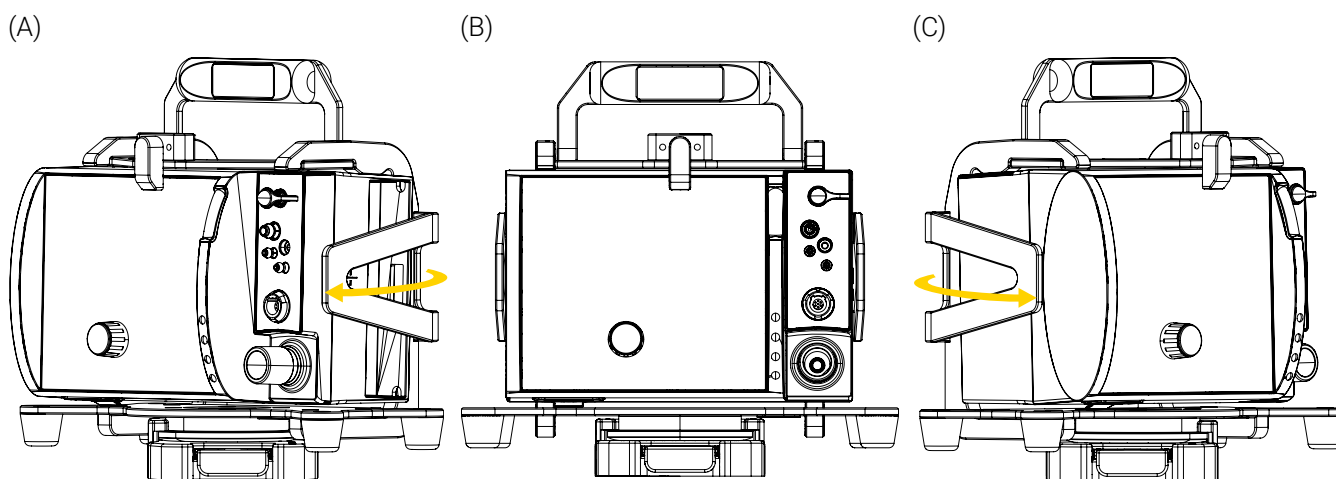

Figure 14: Rotating the medical device
3. For medical devices installed in the mounting system horizontally, turn the device up to 360° clockwise or counterclockwise to the desired position (Figure 14).